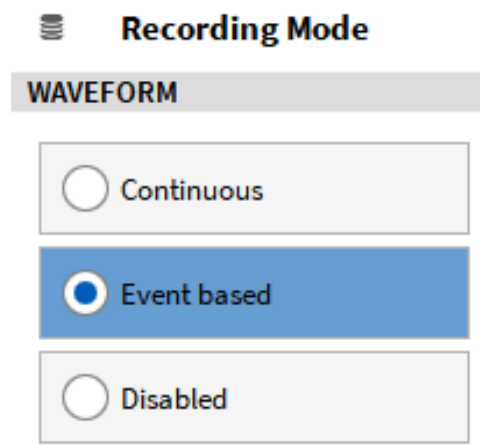

Fig. 9.26: Event based Waveform Recording selection
- Select *Event based Waveform Recording* as Recording Mode (see Fig. 9.26):